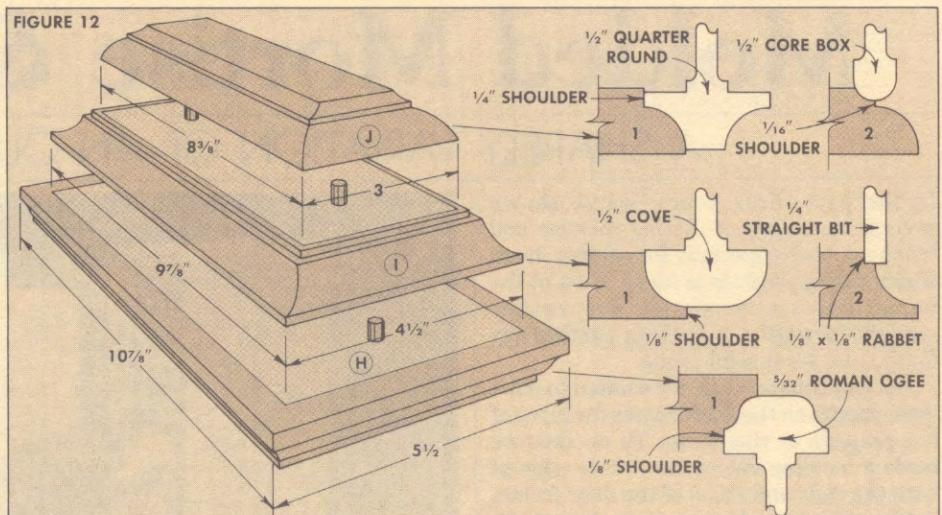

FIGURE 13
THE BASE. The base piece (K) is identical to the bottom crown piece (H). The feet are cut to size from $\frac{1}{2}$ "-thick stock (see Fig. 13), and routed with a $\frac{1}{2}$ " quarter-round bit on the three outside edge and a $\frac{1}{2}$ " cove bit on the inside edge, see Detail A, Fig. 13.